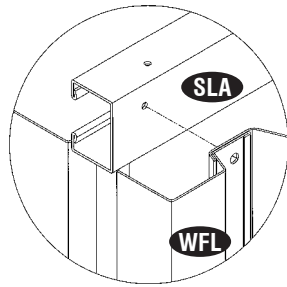

Fig.1
9. Place the sliding channel left (SLA) on top of the wall panel (WFL) from inside. See the position in fig1. Line up the holes with wall panel use (S1)